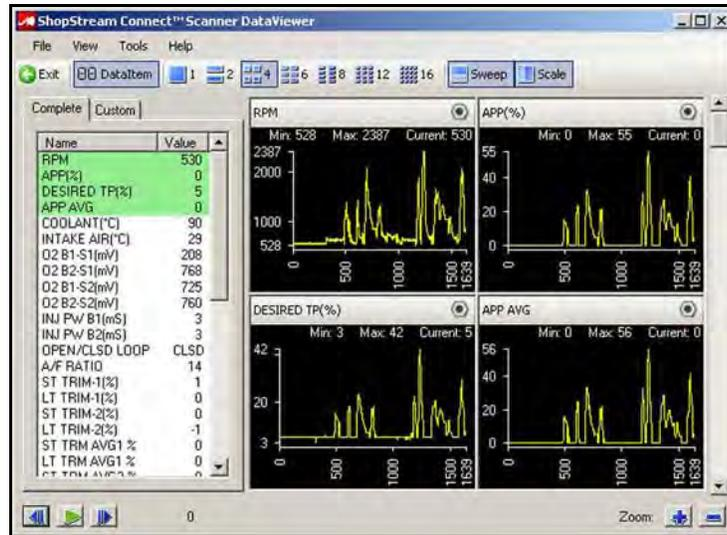

Figure 4-19 Sample changed screen view
2. **Left-click** the mouse and the new selection displays (Figure 4-19).